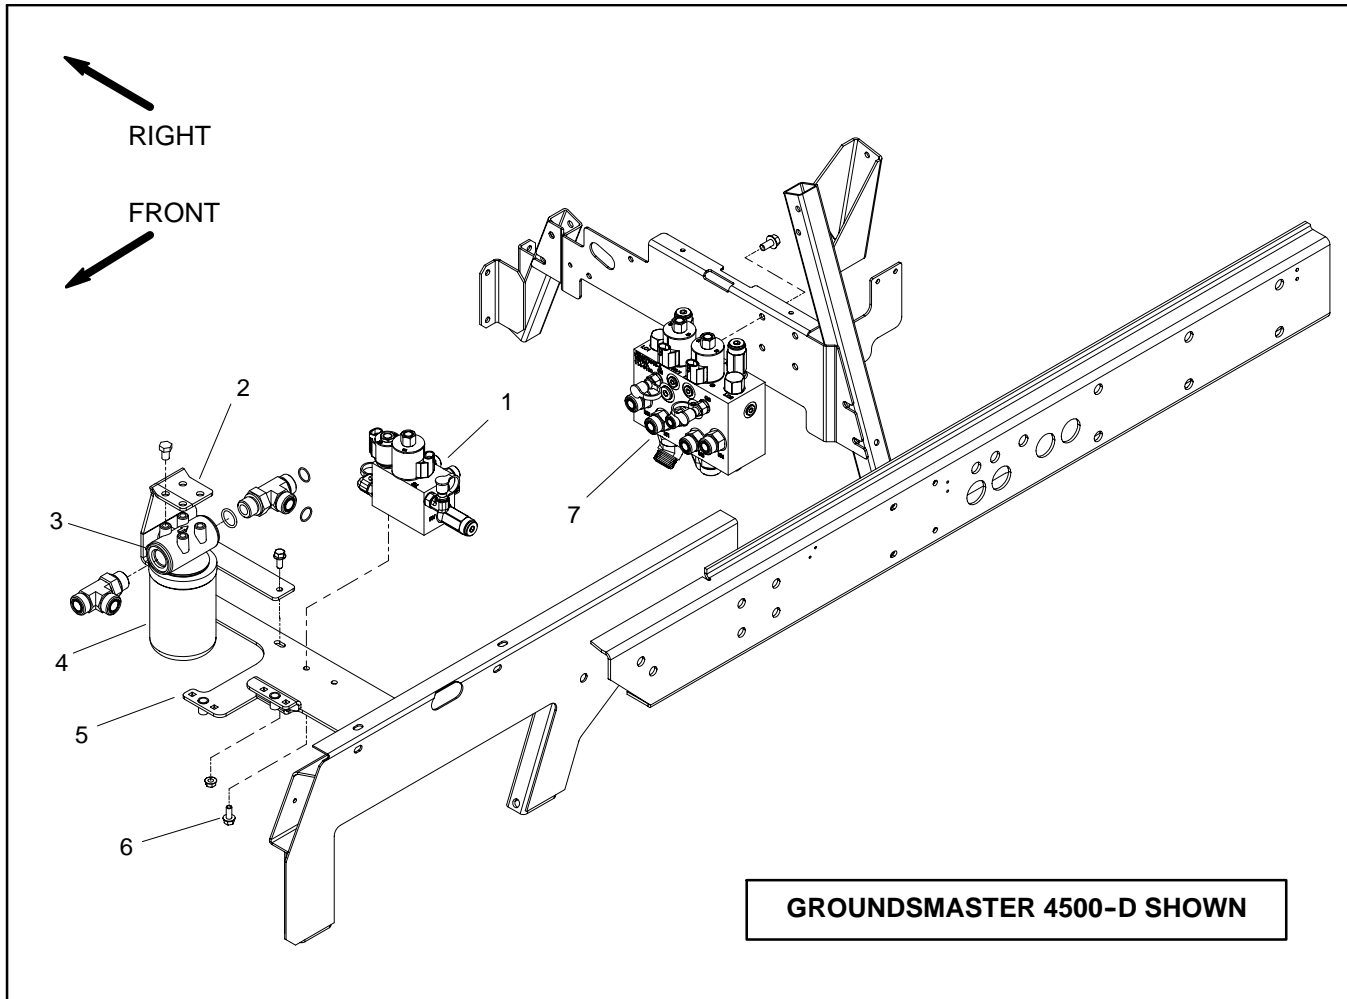

Figure 97
NOTE: The lift control manifolds used on Groundsmaster 4500-D and 4700-D machines are different but they mount to the machine in the same location. The Groundsmaster 4500-D control manifolds are shown in Figure 97.
Removal (Fig. 97)
7. Remove hydraulic manifold from the frame using Figure 97 as guide.
Installation (Fig. 97)
2. Install hydraulic manifold to the frame using Figure 97 as guide.